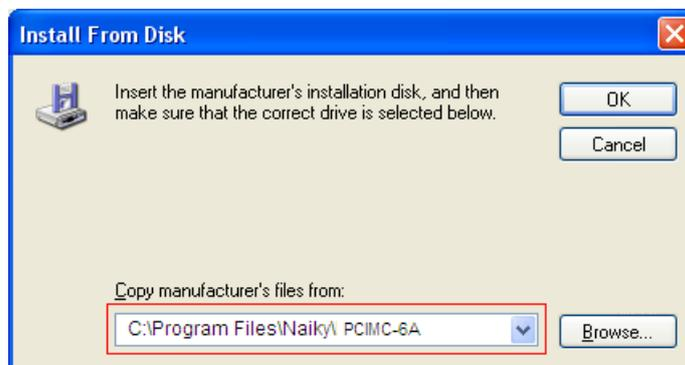

Fig. 3-6 Target file directory confirmation
- 7) After hardware driver being correctly chosen, the interface jumps to the previous dialog box where the target file directory will be displayed under item “Copy manufacturer’s file from:”, as shown in Fig. 3-6.